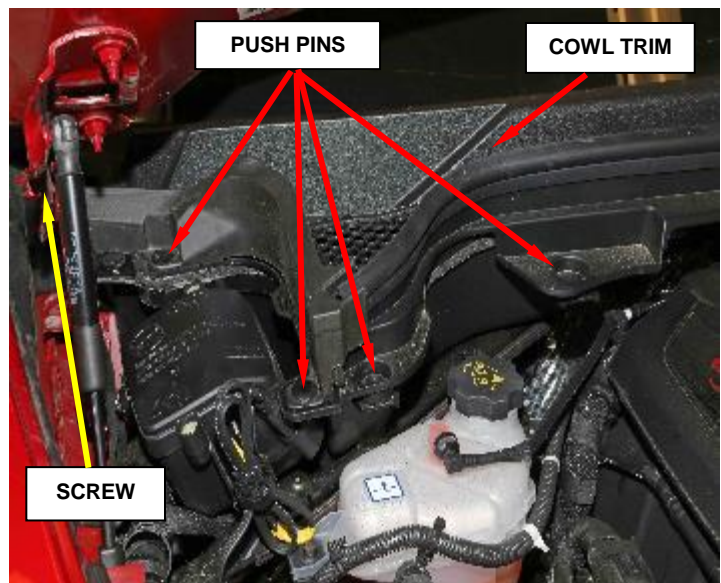

Figure 8 – Windshield Frame Trim Mounting Push Pins
- h. Working on the right side of the windshield cowl trim, remove the four push pins and screw (Figure 8).